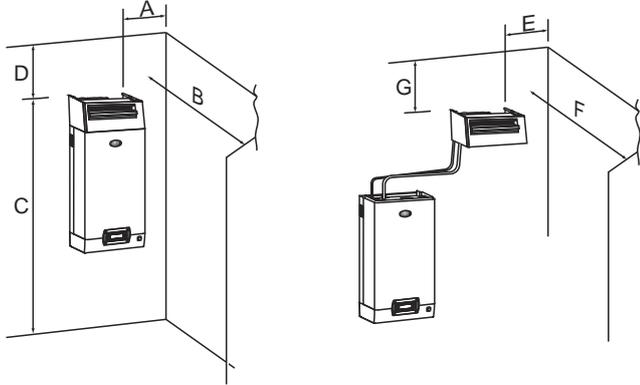

Fig. 3.c
2. the L-shaped supports (see element 1 Fig. 3. b) is supplied with steam distributors models from DP085* to DP205*. For shorter lengths the bracket can be supplied as optional (code 18C478A088).
Steam distributors for installation in rooms. These come with a fan to assist steam absorption. The VSDU0A* blowers can be used on humidifiers with flow-rates up to 18 kg/h (39.7 lb/h), i.e. models UR002...UR013. They can be connected to the top of the humidifier, or separately in a remote position using the fastening support VSBAS0001 (see Fig. 3.c). These distributors have a power supply inside the electrical panel (24 Vac, Terminals X1, X2).